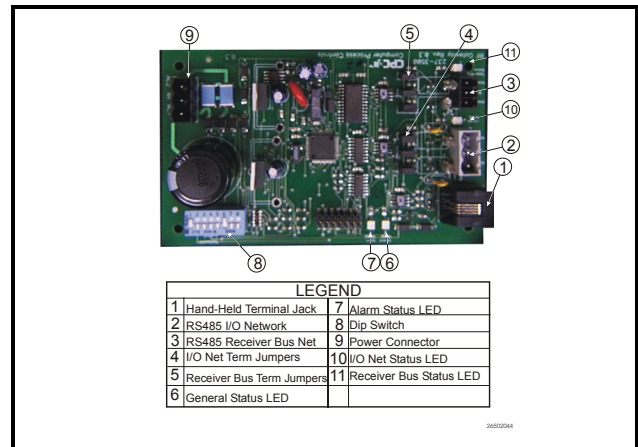

Figure 1-2 - Gateway Board
The PerformanceAlert™ Gateway (Figure 1-2) allows you to connect up to fourteen (14) PerformanceAlert™ Diagnostic Modules. On the I/O network, the Gateway board mimics the behavior of one or more 16AI boards, which use virtual 16AI board/point addresses to pass along information from the modules to the E2.